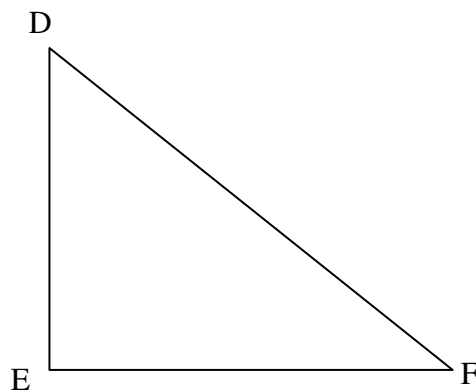

Figure 2-4: Naming angles in a triangle
1. Referring to Figure 2-4, name all the vertices and sides.
2. What are all of the acceptable ways to name the interior angle, from Figure 2-4, which is formed between sides DE and DF ? You should be able to list three different names for this angle.
3. What are all of the acceptable ways to name the interior angle, from Figure 2-4, which is formed between sides EF and DF ? You should be able to list three different names for this angle.